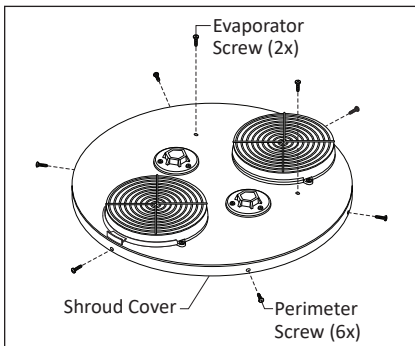

Figure 51 - Remove Shroud Cover
- 4 Remove the six (6) screws located around the perimeter of the shroud cover. Locate and remove the two (2) screws on top of the unit fastening the shroud cover to the heat pump evaporator (Figure 51).